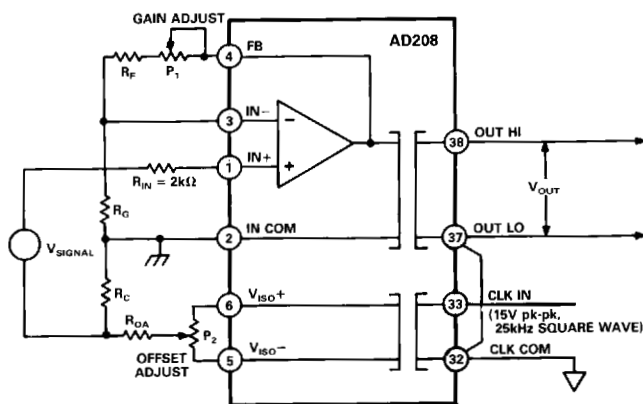

Figure 31. Input Adjustment Circuit for the Noninverting Mode of Operation
Offset Adjustment. Figure 31 shows the suggested input adjustment connections when the isolator's input amplifier is configured for the noninverting mode of operation. The offset adjustment circuit injects a small voltage in series with the low side of the signal source. The adjustment potentiometer P_2 is responsible for nulling out the offset voltage. A 100 k Ω P_2 , 50 k Ω R_{OA} and a 100 Ω R_C should provide an offset adjustment range (Referred to Input) of about ± 15 mV. Since the offset is zeroed out ahead of the gain, the values given above for P_2 , R_{OA} and R_C should work for any gain on the isolator.
- To minimize CMR degradation it is recommended that the resistor R_C (shown in Figure 31) be below a few hundred ohms.
- The offset adjustment circuit of Figure 31 will not work if the signal source has another current path to input common, or if current flows in the signal source LO lead. If this is the case, use the output adjustment procedure.
Gain Adjustment. Figure 31 also shows the suggested gain adjustment circuit. Note that the gain adjustment potentiometer P_1 is incorporated into the gain-setting resistor network at the isolator's input.